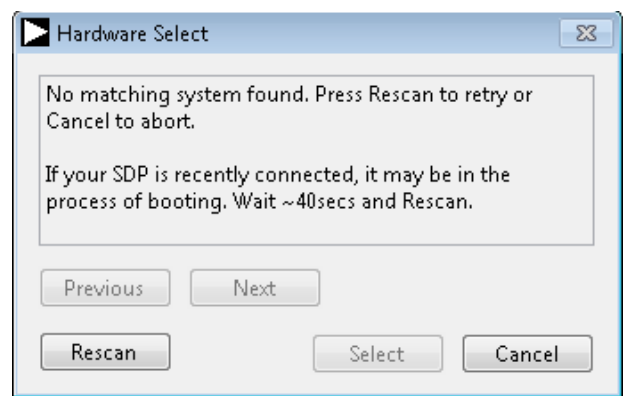

Figure 15. SDP-H1 Board Not Connected to the USB Port Pop-Up Window Error
2. The software automatically seeks to find the hardware connected; therefore, when no hardware is connected, it displays a connectivity error (see Figure 15) when the software is launched. Connect the evaluation board to SDP-H1 and SDP-H1 to the USB port of the PC, wait for a few seconds, click **Rescan**, and then follow the instructions.